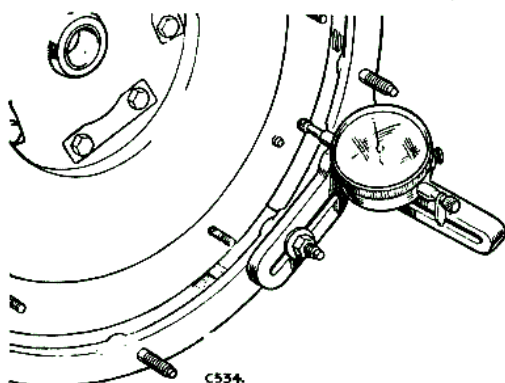

Fig. A-414—Checking run-out on flywheel face
3. Check the run-out on flywheel face as illustrated by Fig. A-414. The run-out on flywheel face must not exceed .002 in. (0,050 mm).